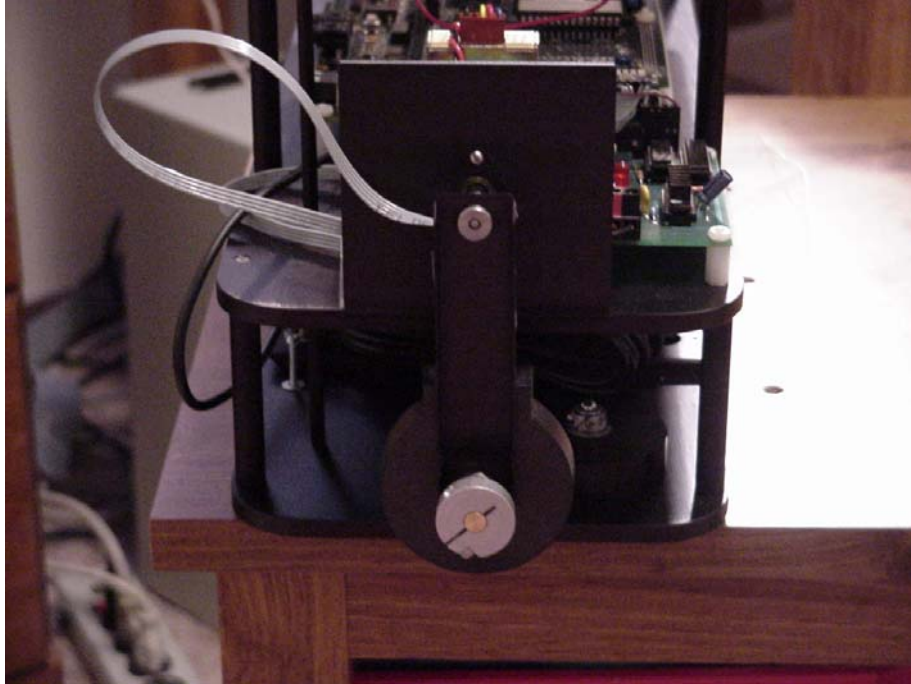

Figure 5-16: Pendubot Cable Routing
1. Lay both ribbon cables from the motor flat along the inside of the link. Use a piece of Scotch tape to tape the cables side by side about an inch below the link coupler. See Figure 5-16. Make sure there are no twists in the cables.
3. Using Figures 5-16 and 5-17 as a guide, create a 3 inch loop to the right (when facing the linkage) of the link and bring them behind the link and tape the cables to the front side of the encoder mount. There should be no twists in the cables and you may have to shape the cables slightly after they have been taped to the encoder mount. You may have to try the routing a couple of times to get it the way you want it. Rotate the link up 180 and -180 degrees and watch that the cables do not touch any